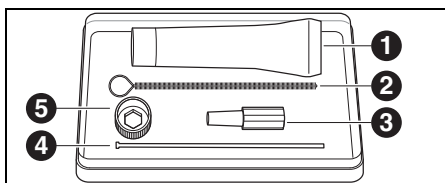

Fig. 21 Service set for Jäger spindle
- ▷ Apply a light coat of the collet grease ([1] in Fig. 21 on page 63) from the service set to the outer cone of the collet.